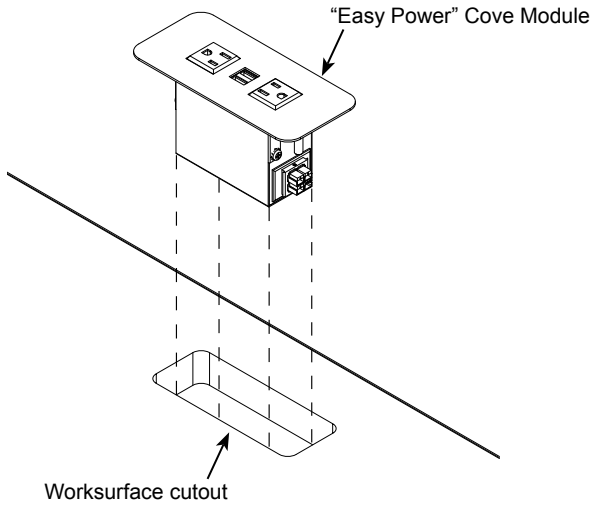

Figure 7.1
1. Remove locking tabs from the Cove module and place into the worksurface cutout. **Figure 7.1.**